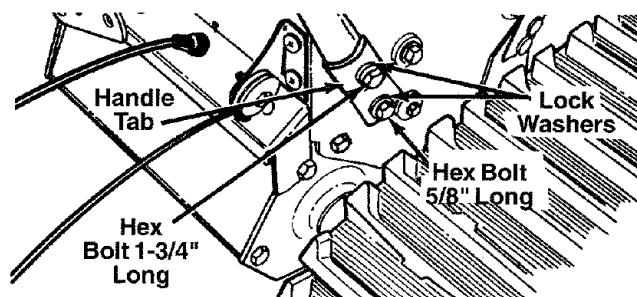

FIGURE 2
- Secure bottom hole in handle to snow thrower using 5/16 x 5/8" hex bolt and lock washer. See figure 2. Do not tighten at this time.
- Match handle tab over the upper hole in handle, so the curve in the handle tab matches the curve in the handle. See figure 2.
- Attach the left handle in the same manner. Do not tighten at this time. See figure 2.